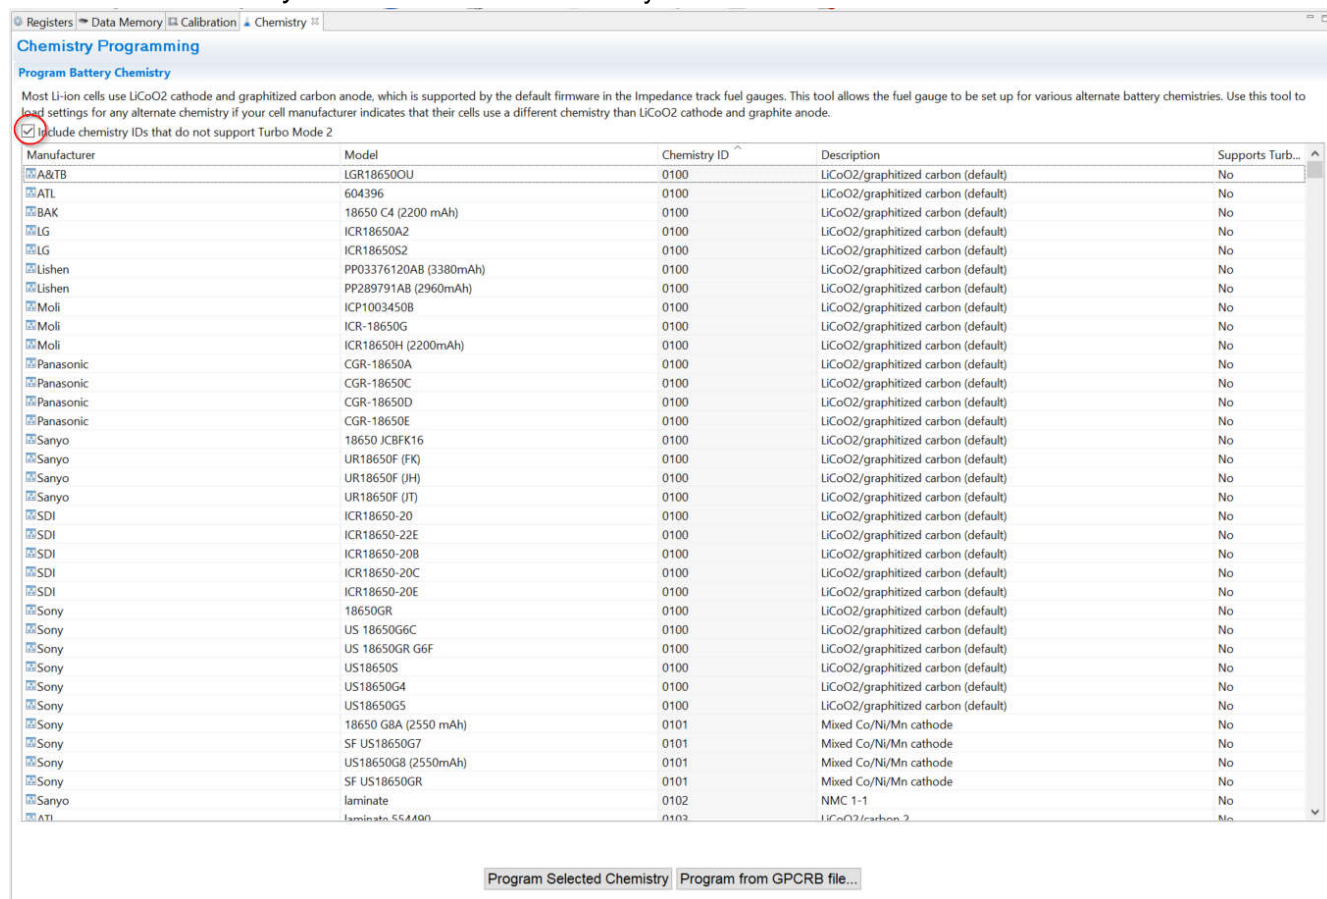

Figure 4-4. Chemistry Screen
4. Select the ChemID that matches the cells used from the table (see Figure 4-4).